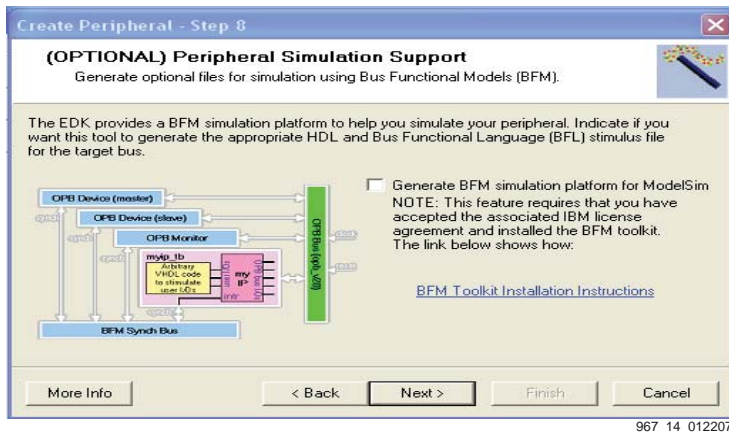

Figure 14: BFM Simulation Support
12. In the (Optional) Peripheral Simulation Support window shown in Figure 14, make no selections, instead click **Next**.